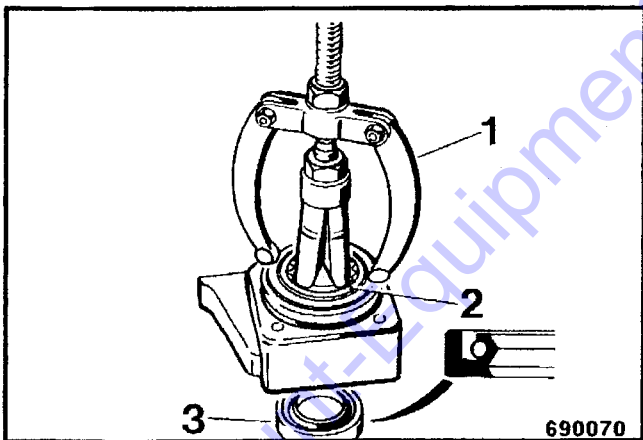

Fig. 12
- Attach an inner grip puller 1 (Fig. 12) and pull the bearing (2) out of the bearing flange.
- Force the radial seal (3) out.